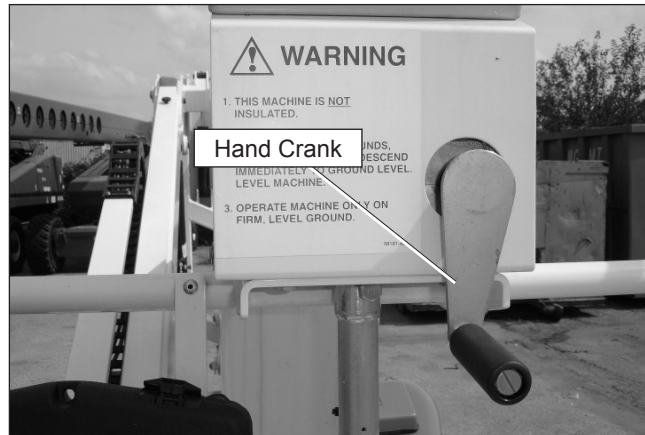

Figure 7.5 – Manual Platform Rotator
- Turn the hand crank (refer to Figure 7.5) counterclockwise to rotate the platform to the left and clockwise to rotate the platform to the right.